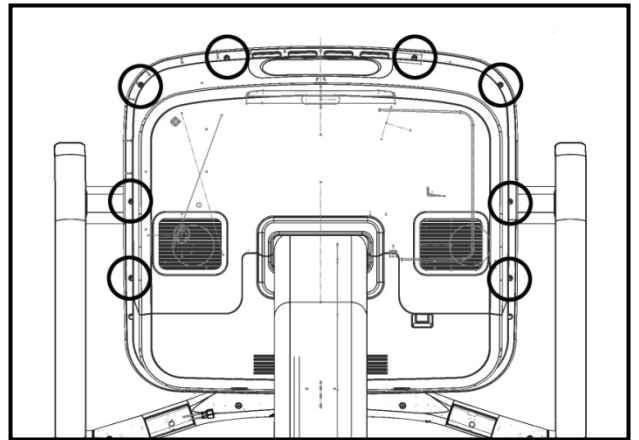

Fig. 21
20. Mate the back shroud of the display with the rest of the assembly by installing eight phillips head screws at the corresponding circled locations (Fig. 21).